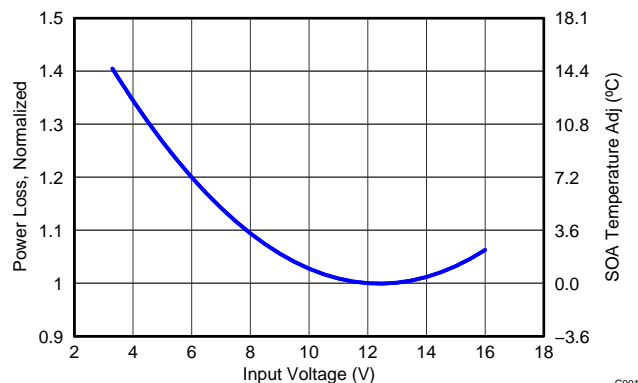

Figure 13. Normalized Power Loss vs Input Voltage
- Normalized Power Loss for input voltage ≈ 1.15 (Figure 13)
- SOA adjustment for input voltage $\approx 5.4^{\circ}C$ (Figure 13)